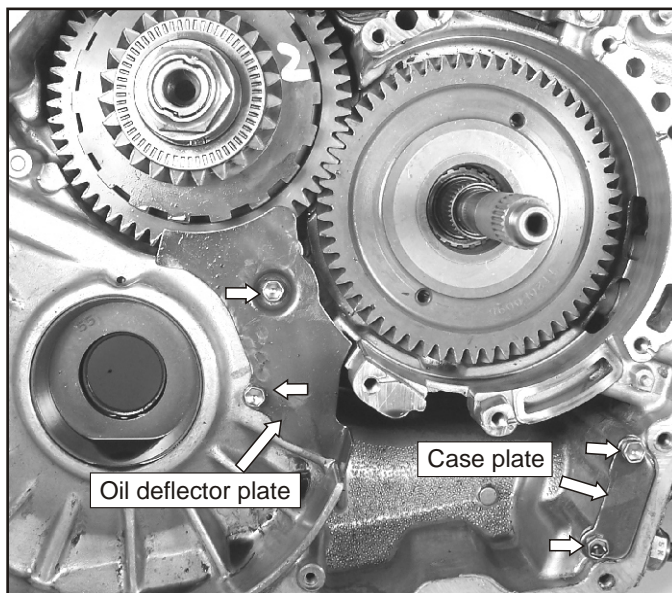

Figure 273
- 197. Install the oil deflector plate, case plate and the four retaining bolts. Torque to 71-106ft.lb. See Figure 273. **Note: the bolt lengths are 13mm long.**